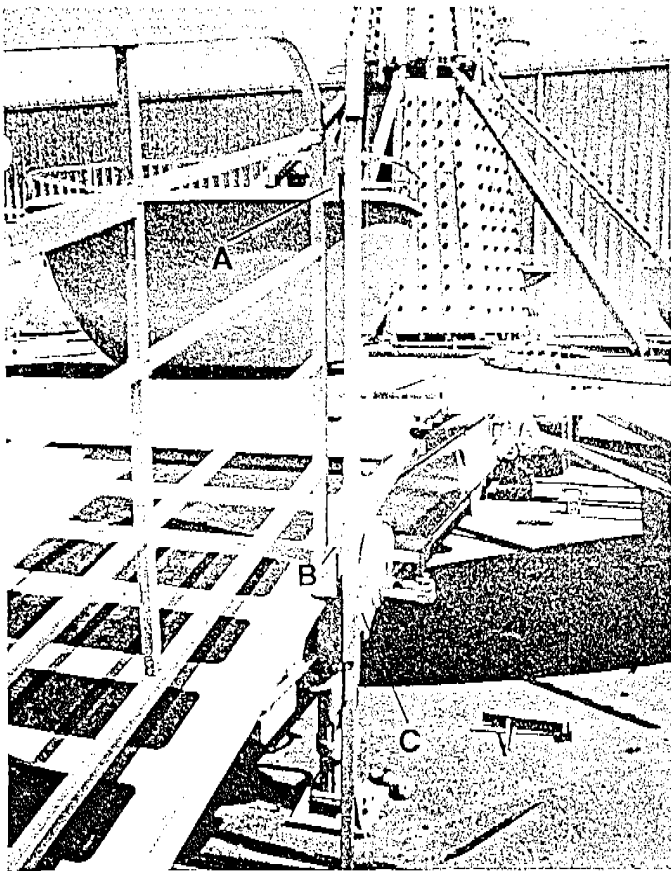

Fig. 14
- (2) Lower the bar so the bottom hook on the bar is at ground level. The top 2 hooks on the starting bar slip into the same sockets that were used for storage. The top hook (a) goes in the top socket on the handrail, the middle hook (b) goes in the socket on the gooseneck ramp floor. (Fig. 14)
- (3) Slip one pin on the walkway floor section down in the mounting bracket on the trailer frame. Slip the outside pin on the floor section down in the socket on the starting bar (c). (Refer to Fig. 14)